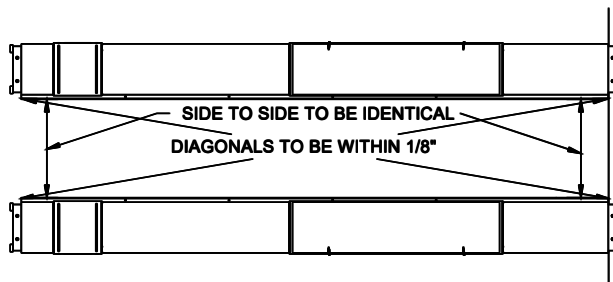

Fig 8 – Final Runway Positioning
- 12) Check the layout of the lift in the bay. **(This is the last opportunity to reposition the lift. Take a moment to determine the position of the front column anchors to ensure proper clearance from any crack, edge, or expansion joint. Ensure proper clearance for the lift operator at the Power Unit Controls).** Adjust the position of the runways so the distance from power side jack rail to idler side jack rail is the same at the front and rear and the diagonal measurements from the front tip of one rail to the rear tip of the opposite rail are within 1/4", **Fig 8**.
- 31) Recheck the four runway measurements from Fig 8.